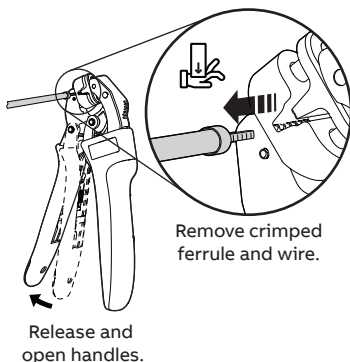

Figure 4
5. Open tool and remove crimped ferrule and wire (Figure 4).